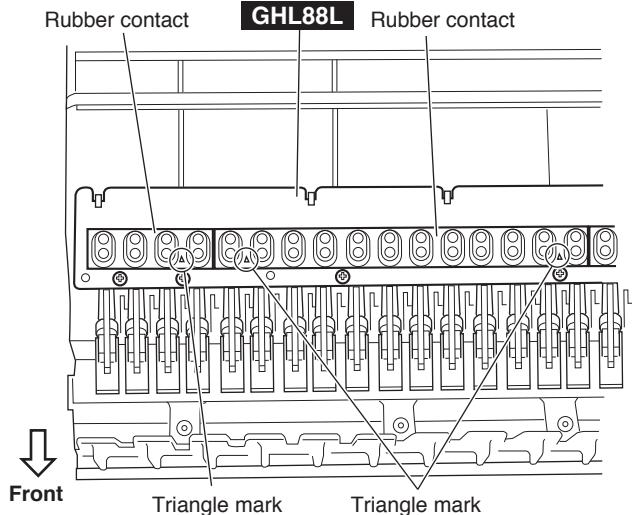

Fig.17
- * A triangle mark (\triangle) on the rubber contact must face the front. (Fig.17)